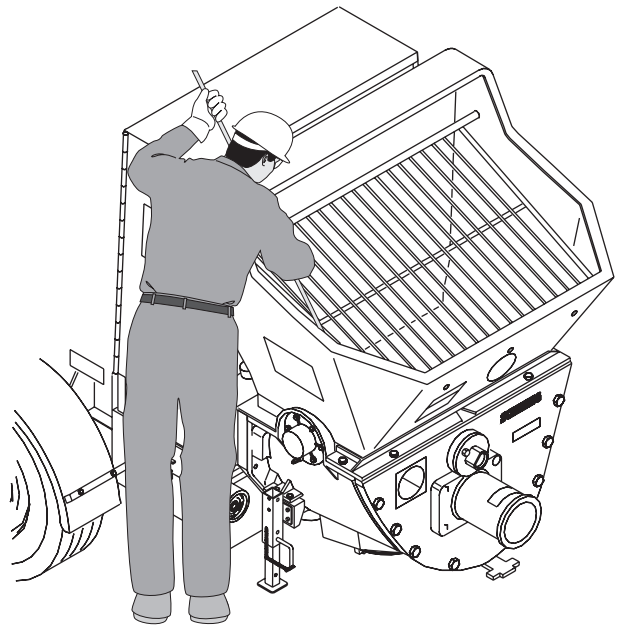

Figure 20
- Poke any material that has set in the corners of your hopper with a piece of rebar or another stiff, long bar (Figure 20). Do not remove the hopper grate for this cleanout procedure. This procedure must be done with the hopper grate in place. **Do not spend too much time on this procedure**, or the concrete will have time to set up in the rock valve and material cylinders.